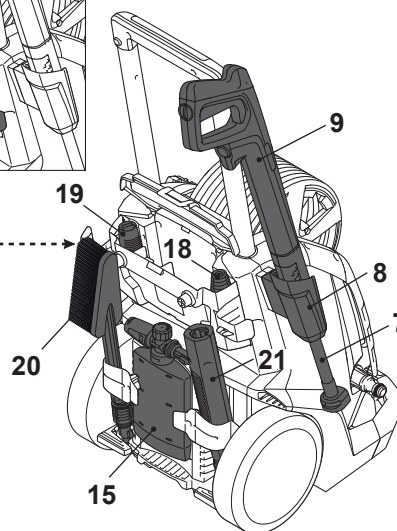

Fig. 16
Use the supply cord holder (12) to store the supply cord (11) (Fig. 16).
Use the upper spray gun holder (8) to store the spray gun (9) and extension lance (7) (Fig. 16).
Accessories (soap tank (15), nozzles (18,19), short extension lance (21), rims brush (20)) can be stored at the back of the product. (Fig. 16).